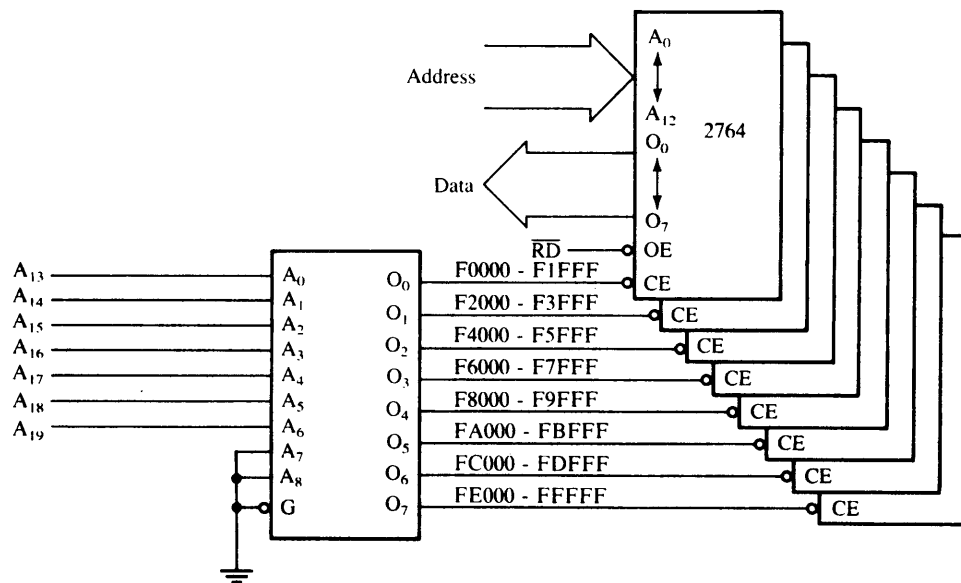

FIGURE 9-15 A memory system using the TPB28L42, 512 x 8 PROM as an address decoder.
Figure 9-15 illustrates this address decoder with the PROM in place. The PROM is a memory device that must be programmed with the correct binary bit pattern to select the eight EPROM memory devices. The PROM itself has nine address inputs that select one of the 512 internal 8-bit memory locations. The remaining input (CE) must be grounded because if this PROM's outputs float to their high-impedance state, one or more of the EPROMs might be selected by noise impulses in the system.
TABLE 9-1 The 82S147 PROM programming pattern for the circuit of Figure 9-15.